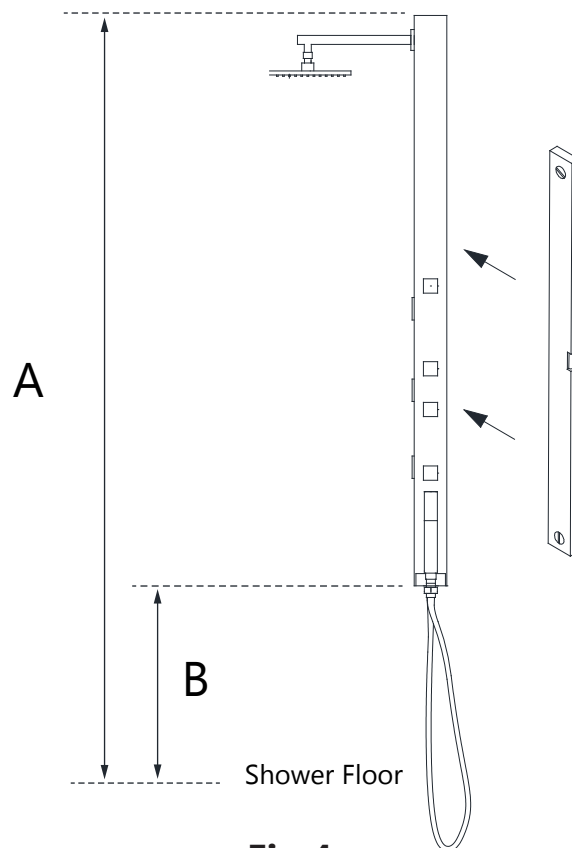

Fig 4
4. Using an assistant, place the unit against the shower wall at the desired position (over the two stub-outs) with the showerhead about 12"-18" above average head height **(A)**. Plumb the unit with a level and mark the wall on the side of the unit as well as at the bottom of the unit. Remove the unit from the wall and carefully put it aside. Measure from the shower floor to the bottom mark and record it. You will need this measurement **(B)** in the next step. **(Fig 4)**